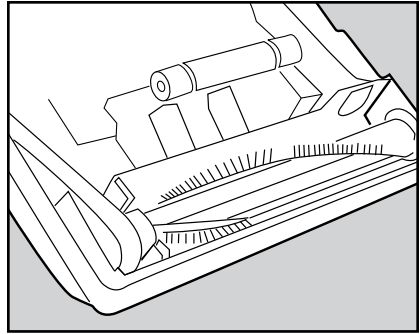

Fig. 1
- Turn the unit over and remove the bottom plate (See "Removing and Reinstalling the Bottom Plate") (Fig. 1).